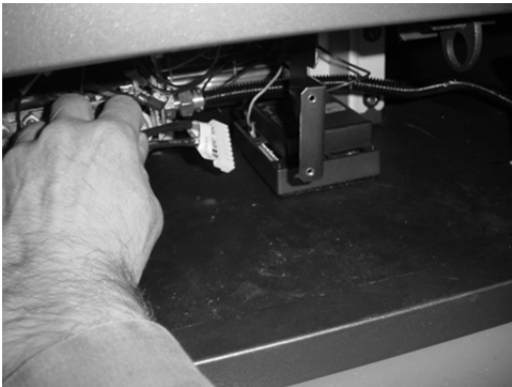
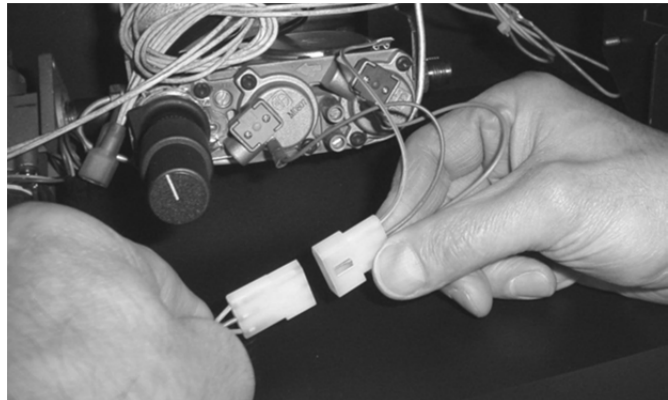

Figure 19
Figure 20
- 12 Attach the wiring harness to the burner control (see Figure 19). Attach the gas control valve moxex connector (see Figure 20).